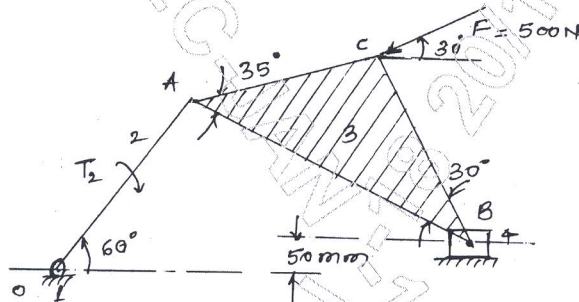

Fig.Q1(b) (10 Marks)
- b. For the mechanism shown in Fig.Q1(b), find the required input torque for the static equilibrium. The lengths OA and AB are 250 mm and 650 mm respectively and force is 500 N.